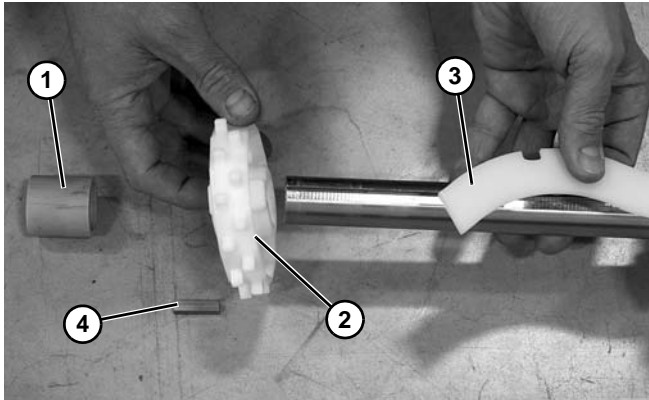

Figure 52
10. Slide the spacer (Figure 52, item 1) off the drive spindle.
11. Slide entire sprocket assembly slightly outward, and remove the first sprocket (Figure 52, item 2) off the drive spindle and alignment key (Figure 52, item 3).
12. Remove drive spindle key (Figure 52, item 4).